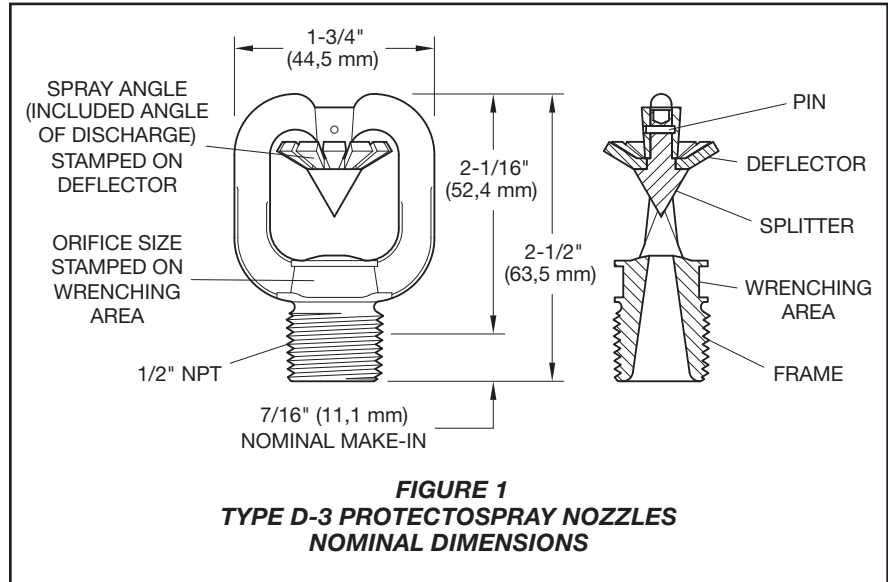
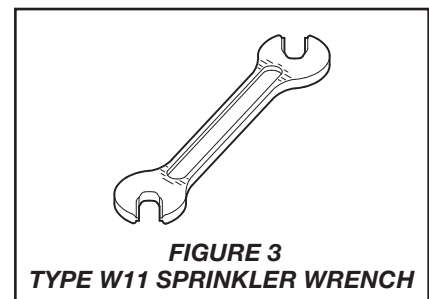

FIGURE 1
FIGURE 3
Step 2. Tighten the nozzle into the nozzle fitting using only the W-Type 11 Sprinkler Wrench (Figure 3). With reference to Figure 1, apply the W-Type 11 Sprinkler Wrench to the wrenching area.